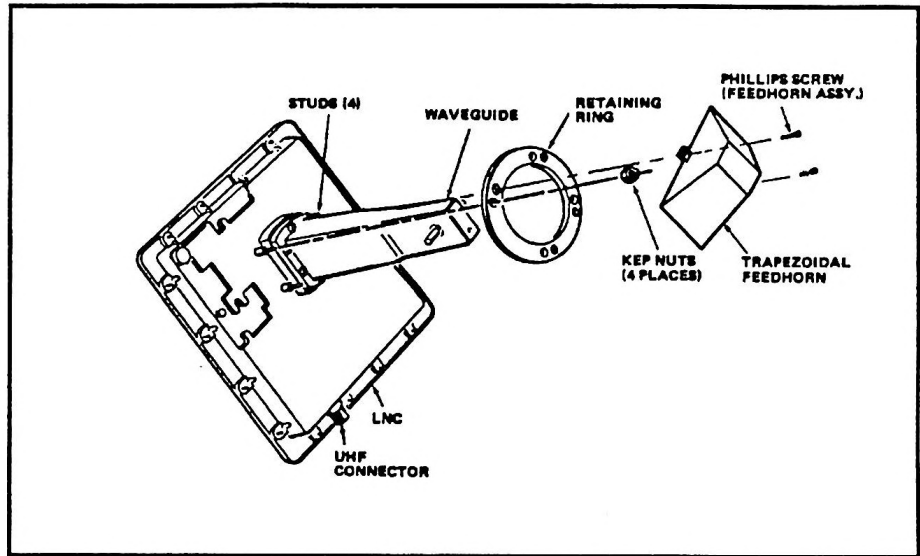
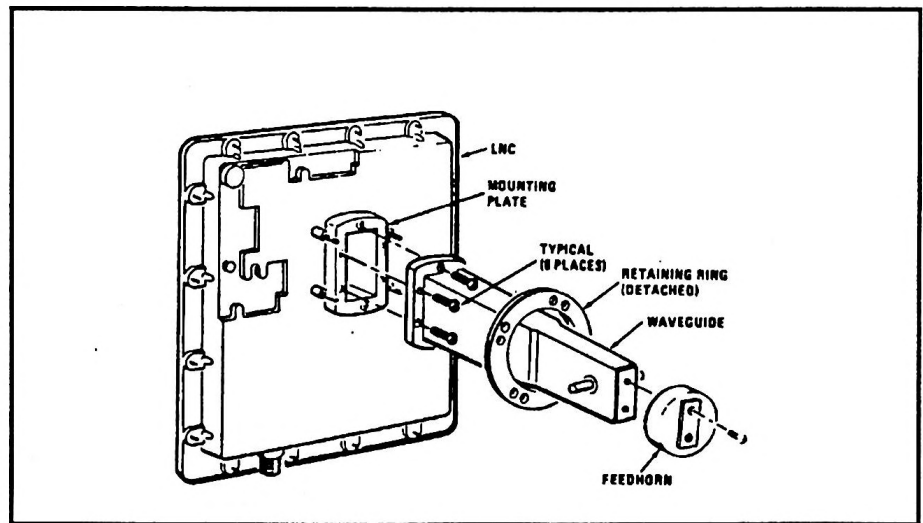

Figure 4-7. LNC with Type B Feedhorn
Figure 4-8. LNC with Type C Feedhorn
2. Study Figure 4-7 (Type B converter) or Figure 4-8 (Type C converter) for assembly details of low noise converter and waveguide with respect to antenna reflector.
4. Install the waveguide assembly to the LNC so that the waveguide aperture is aligned with the low noise converter waveguide aperture. Secure the waveguide to the low noise converter with six Phillips-head screws and tighten the screws. See Figure 4-7.